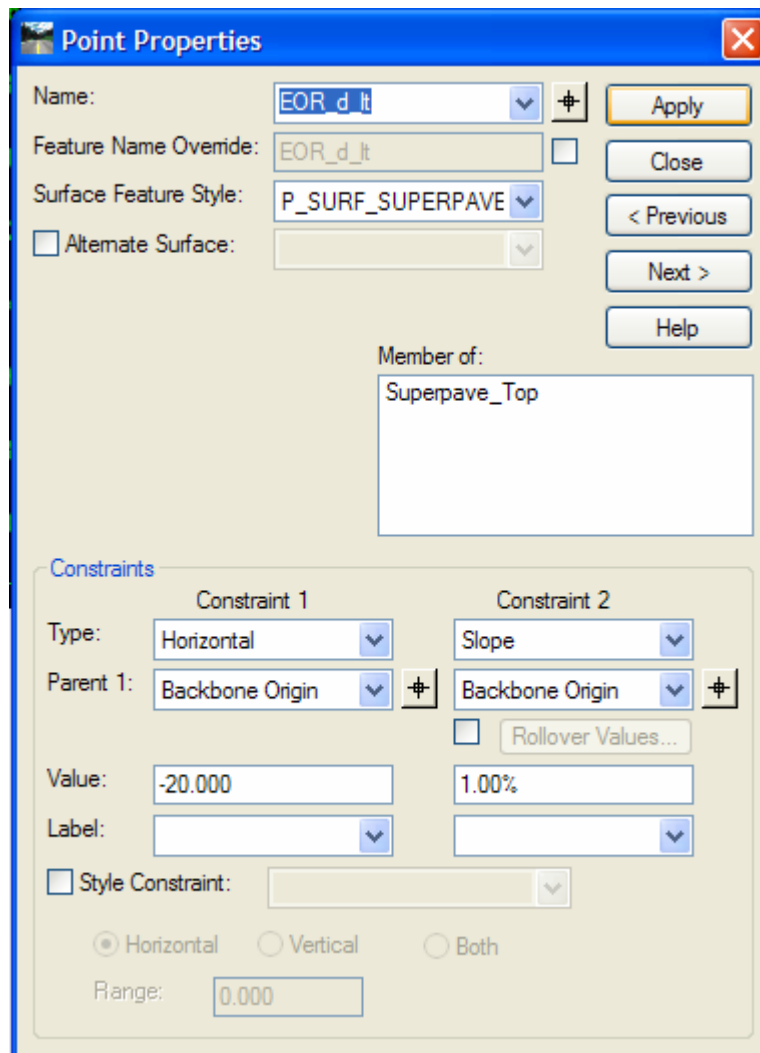

Figure 6-22 InRoads Point Properties Dialog Box
- B. Double click the template library in the left window listing to expand the library folders. Figure 6-22 shows the list of folders in the Template Library.
- K. Next change the cross slope from 1% to 2%. Click the Apply button and then click Close. Figure 6-22 shows the Point Properties dialog box where the user is able to change the Constraint 1 and Constraint 2 values.